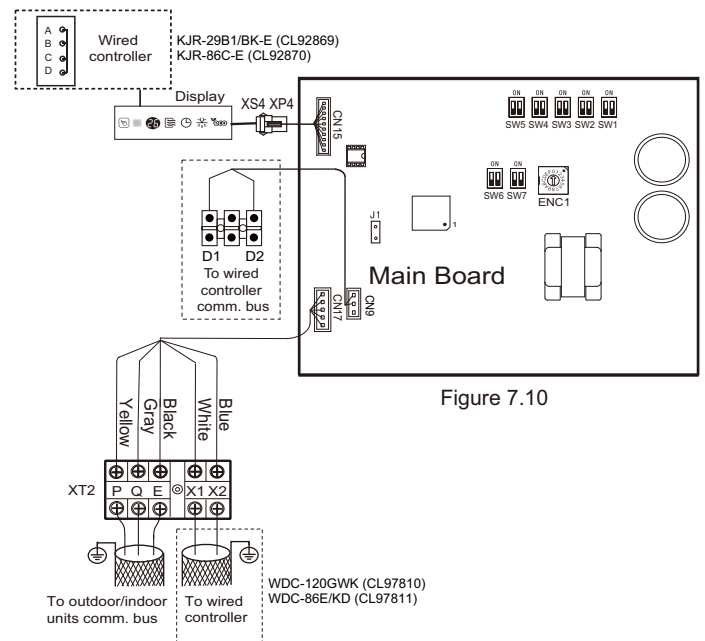

Figure 7.10
- The X1, X2, D1, D2 ports on the sides of the main control board and the unidirectional communication port (display board side) are for different types of wired controllers (see Figure 7.10).